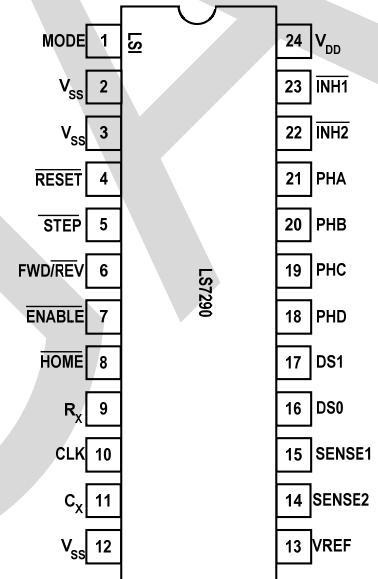

FIGURE 1.
- **LS7290** (DIP), **LS7290-S** (SOIC), **LS7290-TS** (TSSOP) – See Figure 1.